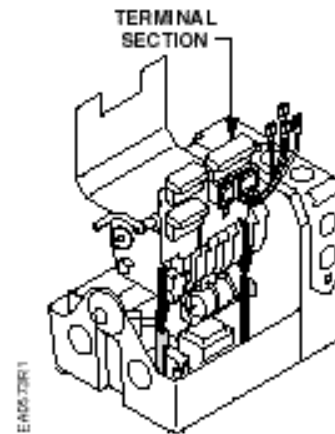

Figure 25.
6. Gently guide the terminal board into the support slots and slide the terminal board downward until both supports snap into place. See Figure 25.